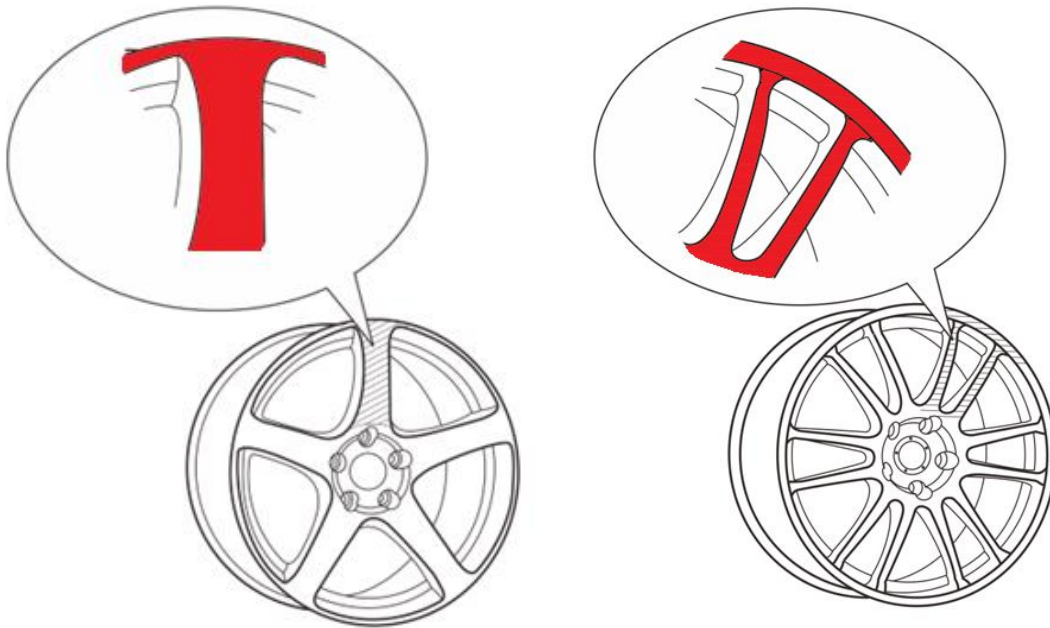

Figure 18
- H. PRO Series vehicles will be required to have stickers on each tire or a contrasting color on a specific portion of each wheel during official practices, qualifying and competition. Refer to Figure 18.